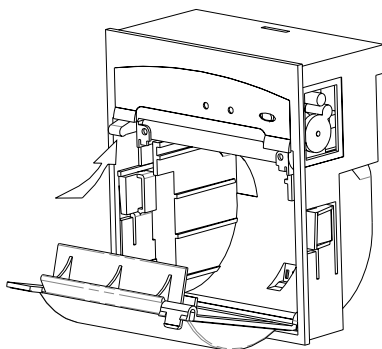

Figure 2-5 Lift the press bar
2. Lift the press bar, as Figure 2-5 shows.